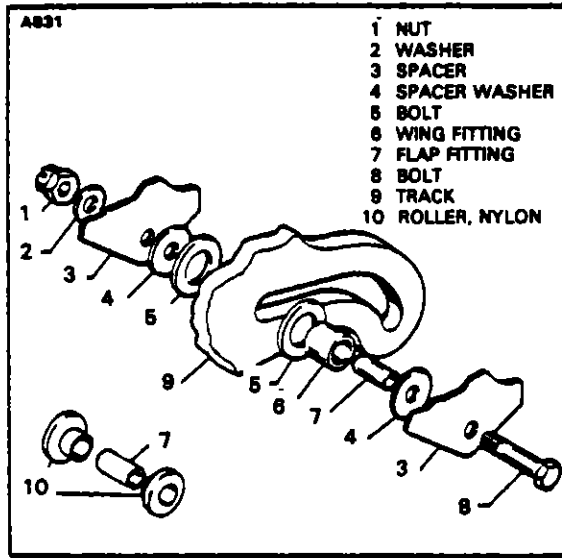

FIGURE 4-3. FLAP ROLLER INSTALLATION (ELECTRICALLY OPERATED)
- b. Position flap in place, lubricate flap rollers and tracks (See Lubrication Chart, Section II) and install the lower roller assemblies. (Refer to Figure 4-3.) When nylon rollers are installed lubrication of rollers and tracks is not required.
- b. Position the flap in place, lubricate the flap rollers and tracks (Refer to Lubrication Chart, Section II) and install the lower roller assemblies. (Refer to figure 4-3.)